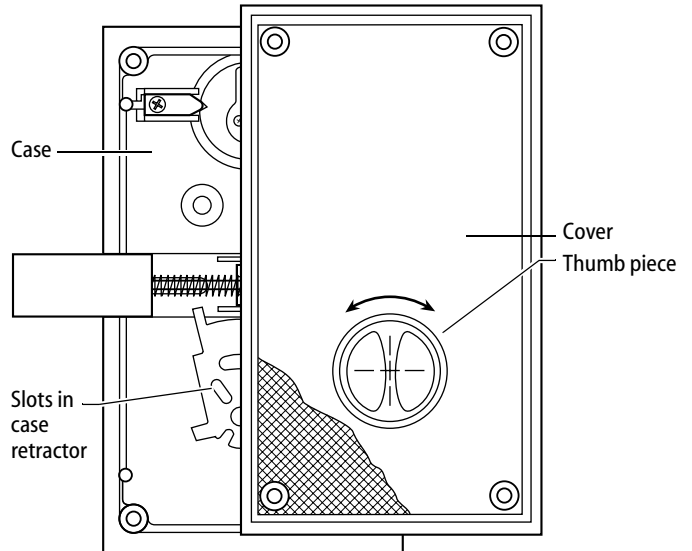

Figure 8
- While rotating thumb piece, place the cover onto the case. Make sure that the thumb piece tabs engage the slots in the case retractor and that the cover fits snugly onto the case. See Figure 8.